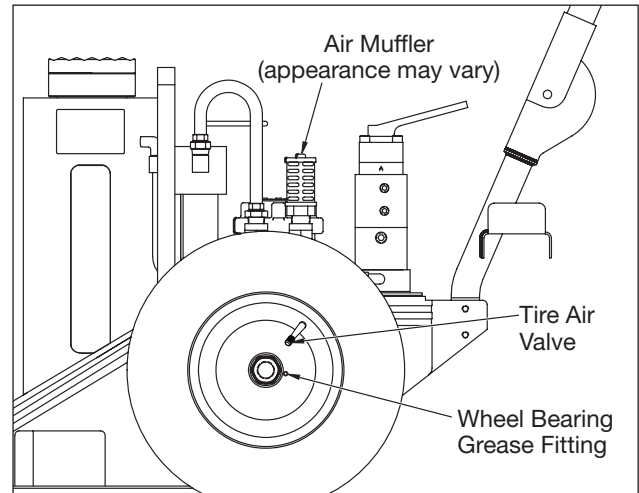

Figure 8, Additional Maintenance Items
6.4.3 Air Muffler (See Figure 8)
6.5 Wheels and Tires (See Figure 8)